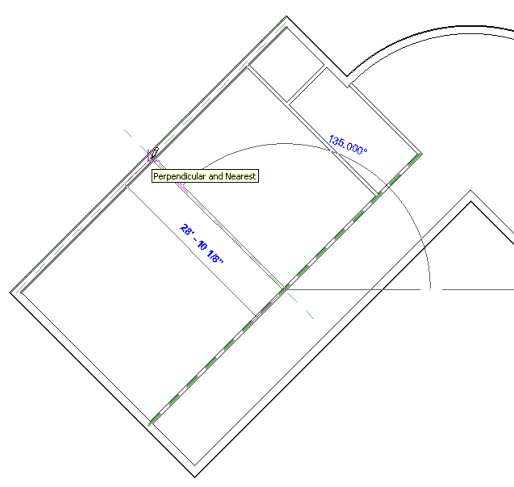

Figure 2-67 Completing the interior walls
11. Move the cursor toward the exterior wall and click when the perpendicular object snap appears, as shown in Figure 2-67, click to specify the endpoint. The wall is created.